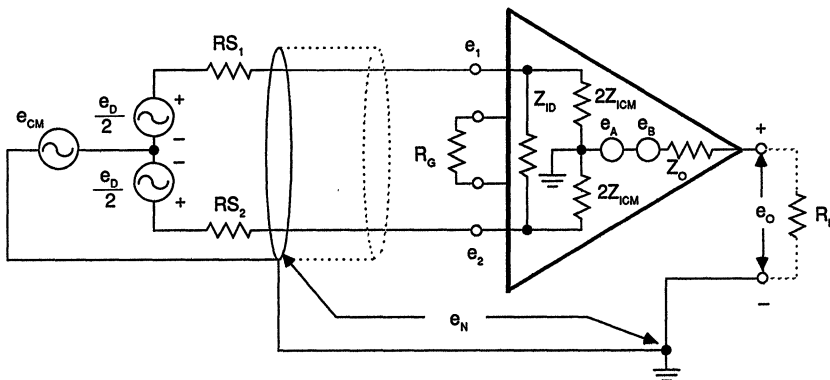

Figure 2. Simple Model of an Instrumentation Amplifier Shown in a Typical Application Configuration.
A simple model of a realistic instrumentation amplifier is shown in Figure 2. The impedance Z_{ID} represents the differential input impedance. The common-mode input impedance Z_{ICM} is represented as two equal components, $2Z_{ICM}$, from each input to ground. These finite resistances contribute an effective gain error due to loading of the source resistance. The instrumentation amplifier provides a load on the source of $Z_I = Z_{ID} \parallel Z_{ICM}$. If source impedance is $R_S = R_{S1} + R_{S2}$, the gain error caused by this loading is:
As illustrated in Figure 2, the output voltage has two components. One component is proportional to the differential input voltage $e_D = (e_2 - e_1)$. The second component is proportional to the common-mode input voltage. The common-mode voltage which appears at the amplifier’s input terminals is defined as $e_{CM} = e_2 + e_1/2$. This may consist of some common-mode voltage in the source itself, e_{CM} , (such as bridge excitation) plus any noise voltage, e_N , between the source common and the amplifier common. As shown in Figure 2, the constant G represents the differential amplifier gain factor (fixed by the external gain-setting resistor). The constant $(G/CMRR)$ represents the common-mode signal gain of the amplifier. The CMRR (common-mode rejection ratio) is the ratio of differential gain to common-mode gain. Thus CMRR is proportional to the differential gain and CMRR increases as the differential gain (G) increases. Hence, CMRR is usually specified for the maximum and the minimum values of gain of the amplifier. The common-mode rejection may be expressed in dB as $CMRR (dB) = 20\log_{10} CMRR$. For an ideal instrumentation amplifier the output voltage component due to common-mode voltage should be zero. For a realistic instrumentation amplifier, the CMRR though very high, is still not infinite and so will cause an error voltage of $e_{CM}/CMRR \times G$ to appear at the output.
If the source impedances are unbalanced, the source voltages ($e_{CM} + e_N$) are divided unequally upon the common-mode impedance, and a differential signal is developed at the amplifier’s input. This error signal cannot be separated from the desired signal. In the circuit in Figure 2 if $R_{S2} = 0$, $R_{S1} = 1k\Omega$, $e_{CM} + e_N = 10V$, and $Z_{CM} = 100M\Omega$, then the effect of unbalance is to generate a voltage: